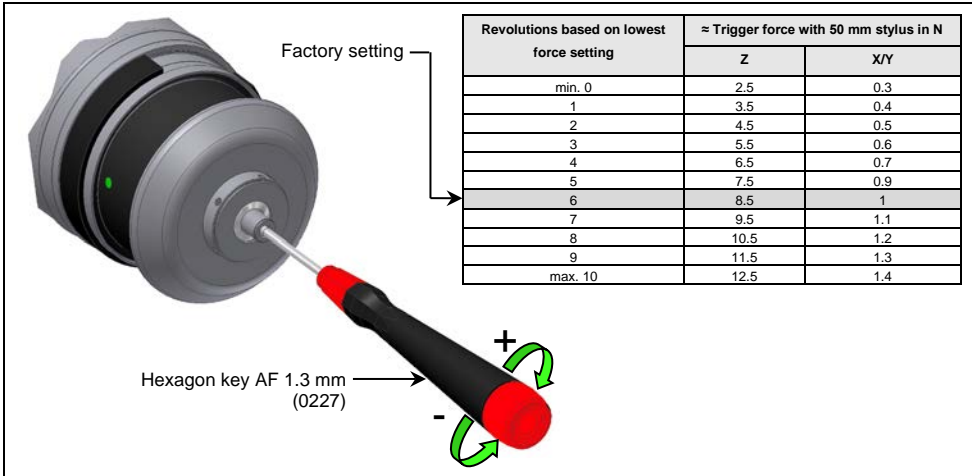

Fig. 22 Adjusting trigger force
2. Use an AF1.3 mm hexagon key to increase or decrease the trigger force (refer to Fig. 22).